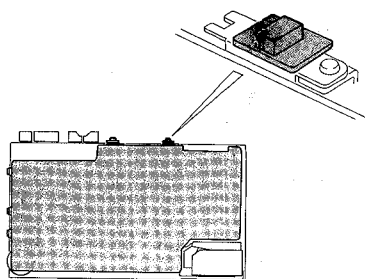

Fig. 2
- * Two switch-knobs must be fitted as illustrated. (See Figure 2.)